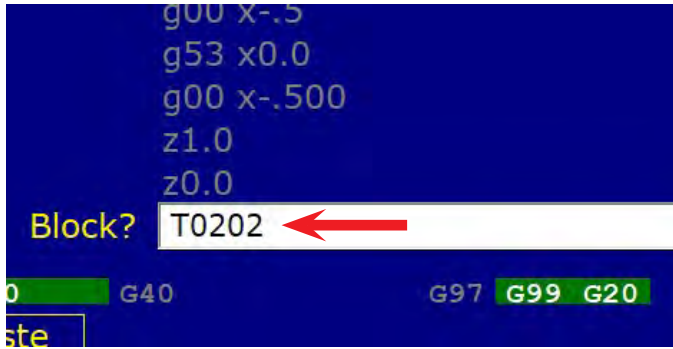

FIGURE 16
1. First, I like to call up each tool that I am setting so the control knows which tool I am using and the DRO position screen will show the DRO position for that tool. To do this, click on MDI F3. Then, type in the tool that you are using (in this example, "T0202"), (see Figure 16).